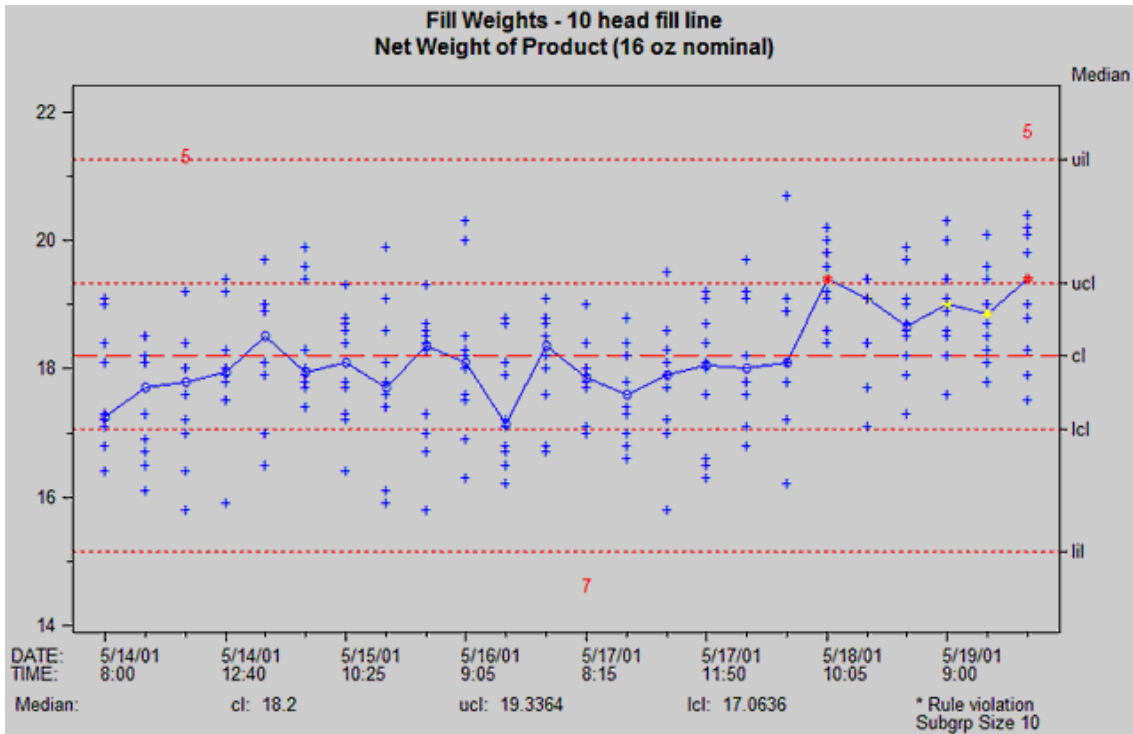

Figure 1: Median/Individual Measurements control chart
Interpretation of a Median/Individual chart is relatively simple. The median is represented by a moving line, generally around the chart center line (CL) (See Figure 1). Individuals are represented by points vertically aligned according to sample. In NWA Quality Analyst, points outside the individual measurement control limits are automatically identified by part number.